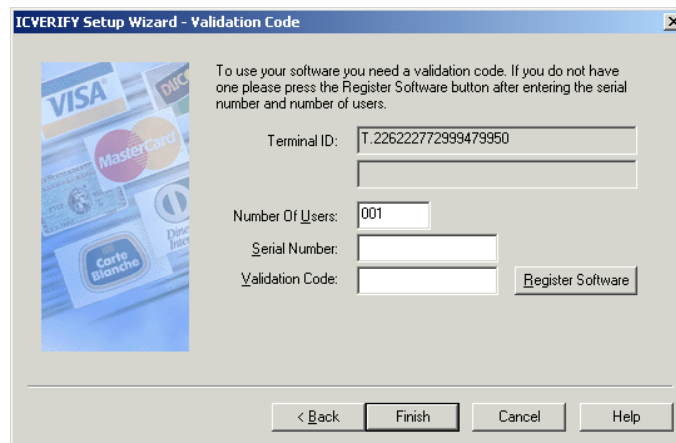

Figure 3.1.4-2: Serial Number & Validation Code
23. Left-click “Next” to proceed to the “Validation Code” window (see **Figure 3.1.4-2** below).